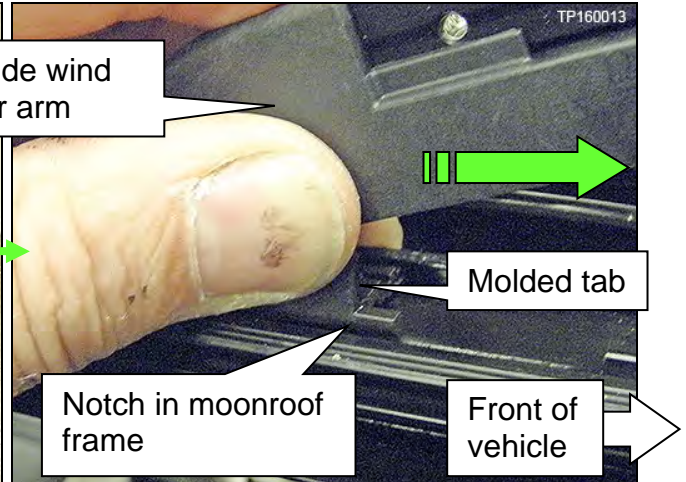

Figure 18
- a. Depress the molded tab on the pivot clip to lift it out of the notch in the moonroof frame (Figure 18).